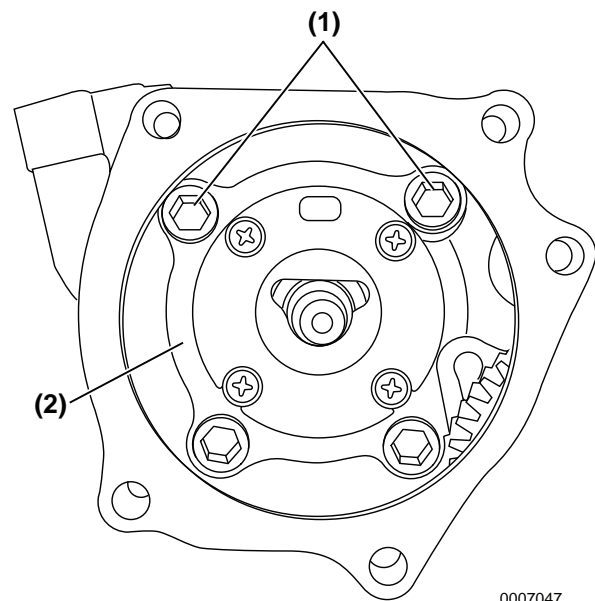

Figure 7-12
2. Install pump to the engine block using the four bolts (**Figure 7-12, (1)**) and metal gasket (**Figure 7-12, (2)**). Tighten to the specified torque.